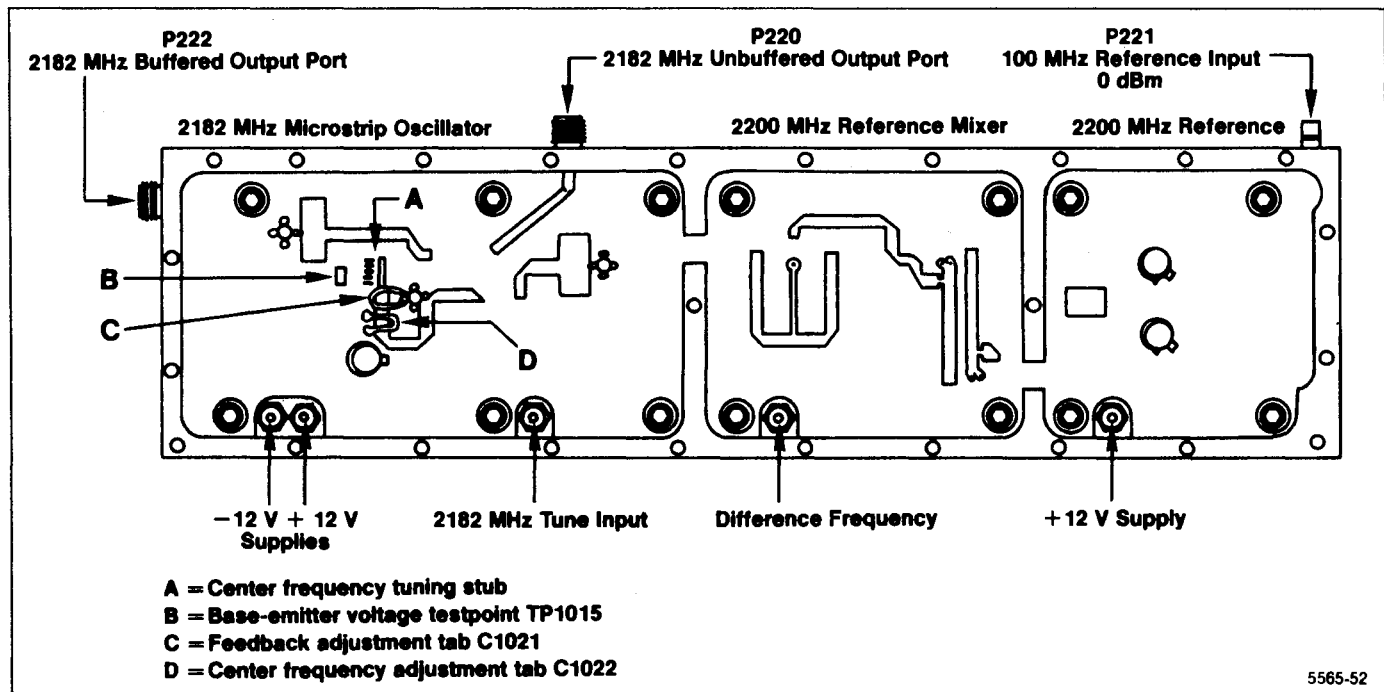

Figure 6-21. 829 MHz Converter oscillator adjustment and test point locations.
Install a 50  $\Omega$  terminator on the 2182 MHz buffered output port, P222, (see Figure 6-21).
e. Bend the feedback and frequency adjusting tabs, C1021 and C1022 (see Figure 6-21) so they are approximately 30 degrees above the board surface.
h. Check Vbe at TP1015 (B in Figure 6-21). If Vbe is greater than +0.5 V, push the feedback adjustment tab down slightly and if less than -0.3 V, lift the tab. If Vbe is greater than +0.8 V, replace the microstrip oscillator board. If Vbe is more negative than -1 V, check the bias circuitry. Adjust the tab so Vbe is +0.15 V,  $\pm$ 0.05 V at TP1015. Do not touch the feedback tab while measuring voltages.
i. Check that the 2nd L.O. signal (frequency) is within one major division of the center graticule line (2.181 GHz to 2.183 GHz). Bend the frequency adjustment tab C1022 (D in Figure 6-21) to bring the oscillator within tolerance. (Bend the tab up to increase frequency and down to lower frequency.) If unable to bring the oscillator frequency within range, replace the 2182 MHz Oscillator board.
b. Confirm that the output signal frequency is 18 MHz  $\pm$ 1 MHz. Adjust the tab C1022 (Figure 6-21) for the 2182 MHz Microstrip Oscillator, to bring the 18 MHz within the 1 MHz tolerance.